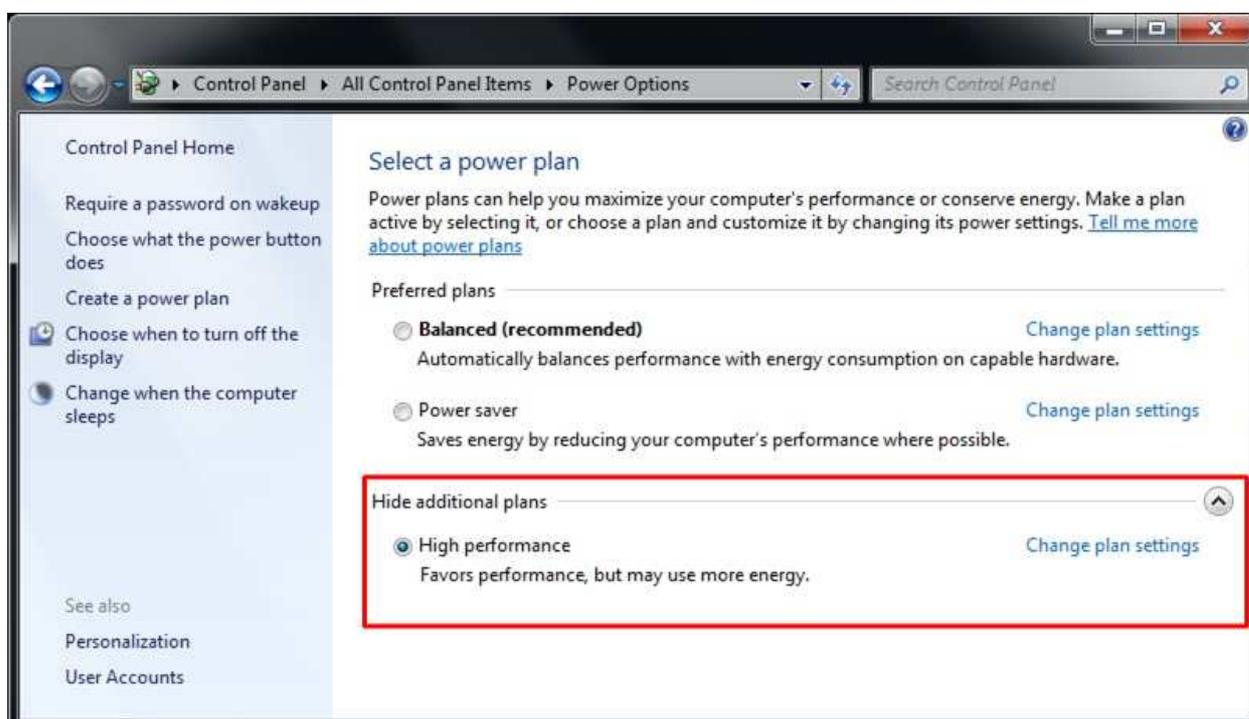

Figure 9 High Performance Option
- Change setting to High Performance as shown in Figure 9.